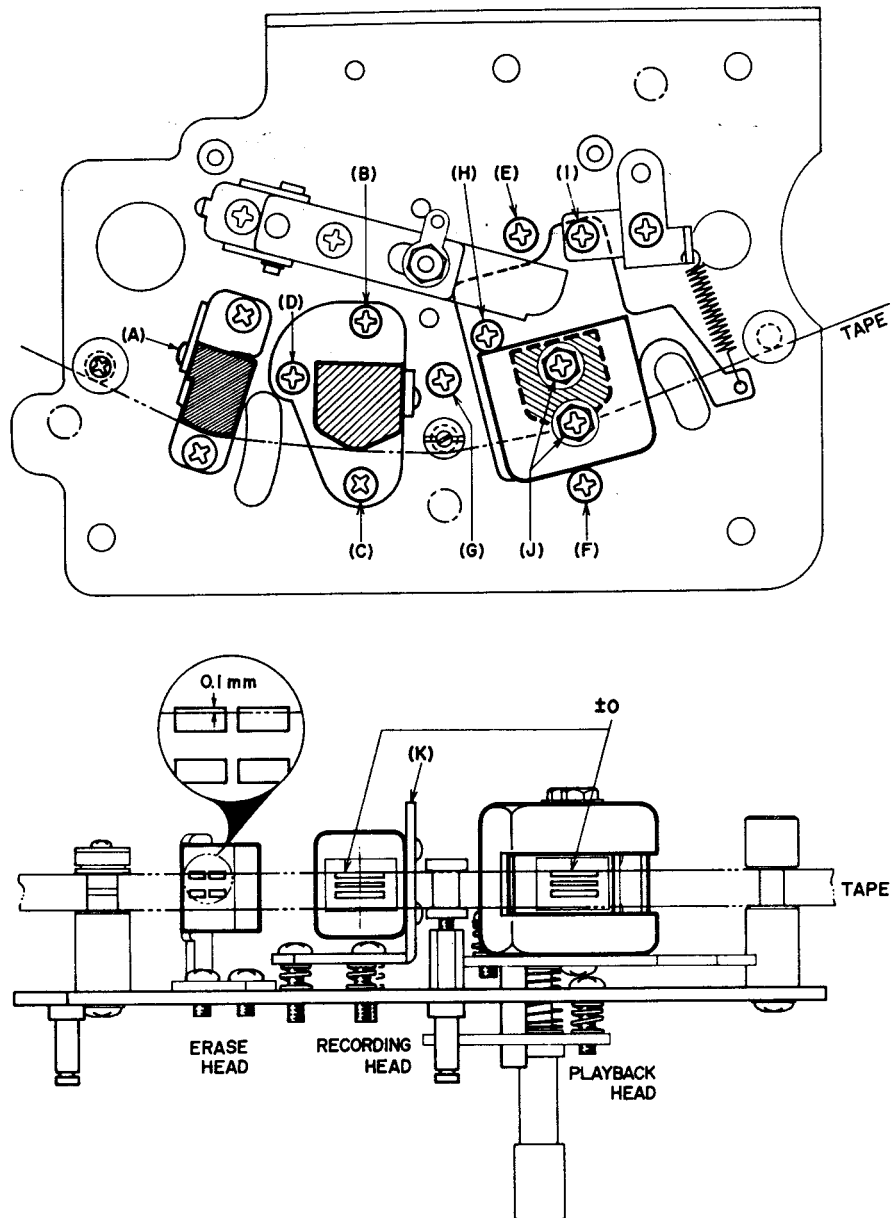

Fig. 15
At P.B. mode, loosen screw (A) shown in Fig. 15 and adjust erase head height so that the upper edge of the tape is about 0.1 mm lower than the left channel head core of the erase head.
At P.B. mode, adjust recording head height by turning screws (B), (C), and (D) shown in Fig. 15 to left and right until the upper edge of the tape and the upper edge of the left channel head core of the recording head are the same height.
- a. At forward P.B. mode, adjust playback head height by turning screw (I) shown in Fig. 15 to left and right until the upper edge of the tape and the upper edge of the left channel head core of the playback head are the same height.
- b. At reverse P.B. mode, adjust playback head height by turning screw (H) shown in Fig. 15 to left and right until the lower edge of the tape and the lower edge of the right channel head core of the playback head are the same height.
- c. At recording mode, turn azimuth alignment screw (D) to left and right and adjust so that the line output level of both channels is maximum and does not fluctuate.
- d. When the above adjustment has been completed, adjust the gap side of the recording head by bending recording head installation angle (K) shown in Fig. 15 to left and right until the line output level (both channels) does not fluctuate (maximum allowable fluctuation +0.5/-0 dB) when tension is applied to the supply reel.